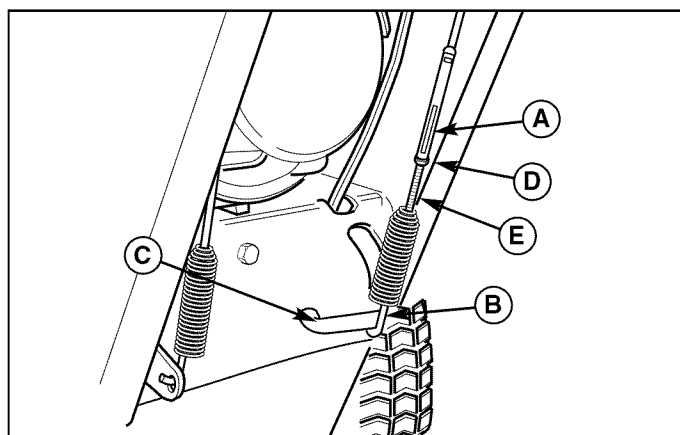

Figure 20. Auger Drive Adjustment
1. With the drive lever released, the hook (B, Figure 20) should barely touch the lever (C) without raising it. There can be a maximum 1/32" clearance as shown.